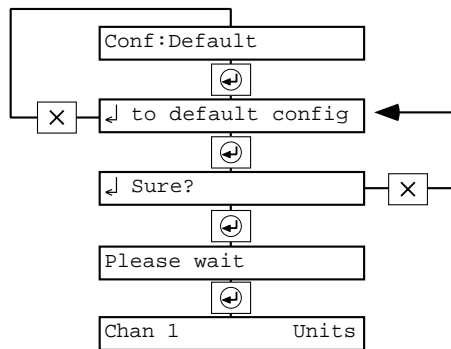

Figure 4.14 Default configuration
This section allows the user to return to the factory set configuration. After confirmation has been received, the recorder re-initialises and returns to the background display (section 2.1). As shown in figure 4.14 below, the user can quit before confirmation by using the clear (X) key.